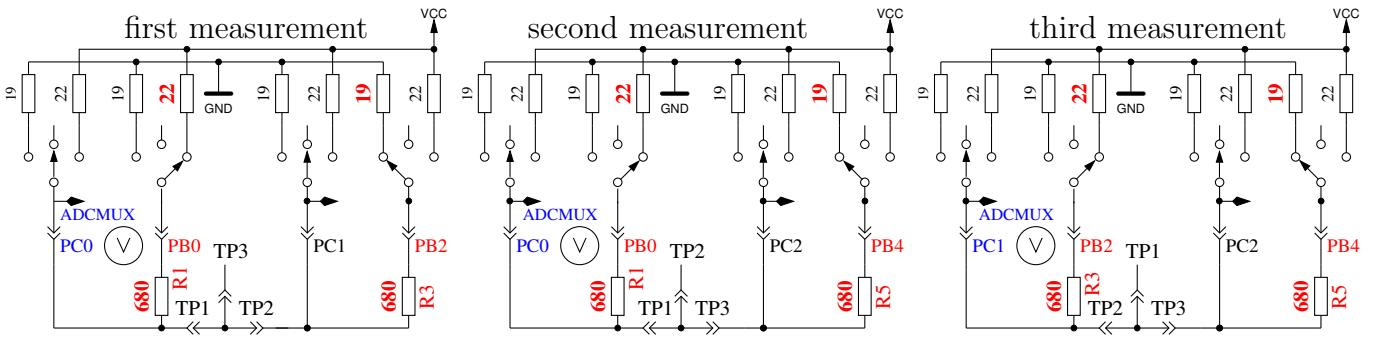

Figure 5.65. Comparison of  $680\Omega$  resistors
2. **Comparing of the  $680\Omega$  resistors.** In row 1 the cryptic text "+RL- 12 13 23" is shown. Meaning of this is as follows: The RL is the short form of Resistor Low meaning the  $680\Omega$  resistors. The 12 stand for: resistor at pin 1 is connected to VCC (+) and resistor at pin 2 is connected to GND (-). The result of this measurement is displayed in row 2 at the first place as difference to the theoretical value. In row 1 follows now a "13" which means, that the first connection of measurement 1 is still connected with  $680\Omega$  to VCC but that the resistor of pin 3 is connected to GND. The result is displayed in the middle place of row 2 as difference to the theoretical value. The last measurement of this test "23." means that now the resistor at pin 2 is connected to VCC (+) and the resistor of pin 3 is connected to GND. The result of measurement is displayed at the last place of LCR row 2 as difference to the theoretical value. Please remember, that the resolution of the ADC is about  $4.88mV$ ! The measurement situation is also shown in figure 5.65. The theoretical value with respect to the internal resistance of the pins should be:  $\frac{5001 \cdot (19+680)}{(19+680+680+22)} = 2493$ .